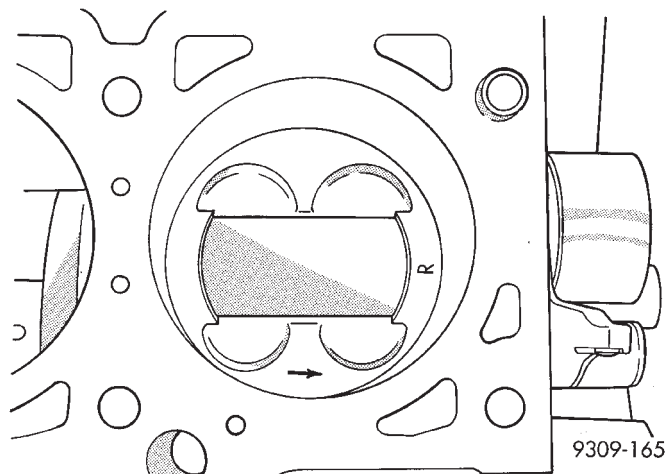

Fig. 95 Piston I.D. Marks
(6) The arrow on top of piston must be pointing toward front of engine (Fig. 95).